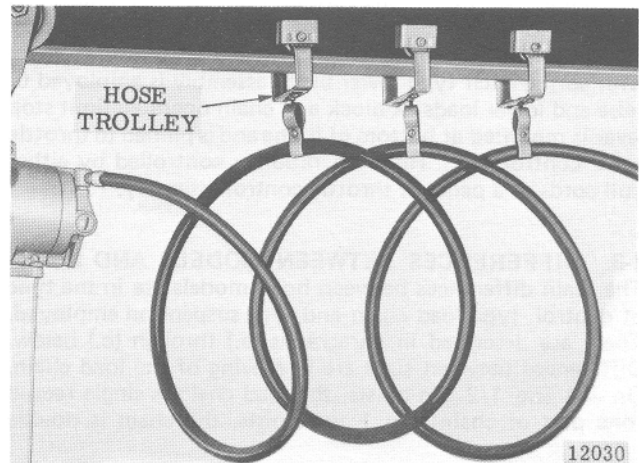

Figure 2-2. Air Hoist Supported by CM Hose Trolleys.
b. If hoist is suspended by trolley, provide sufficient hose to reach from air source to farthest point of trolley travel. CM Hose Trolleys are recommended to keep hose up out of the way (see Figure 2-2).